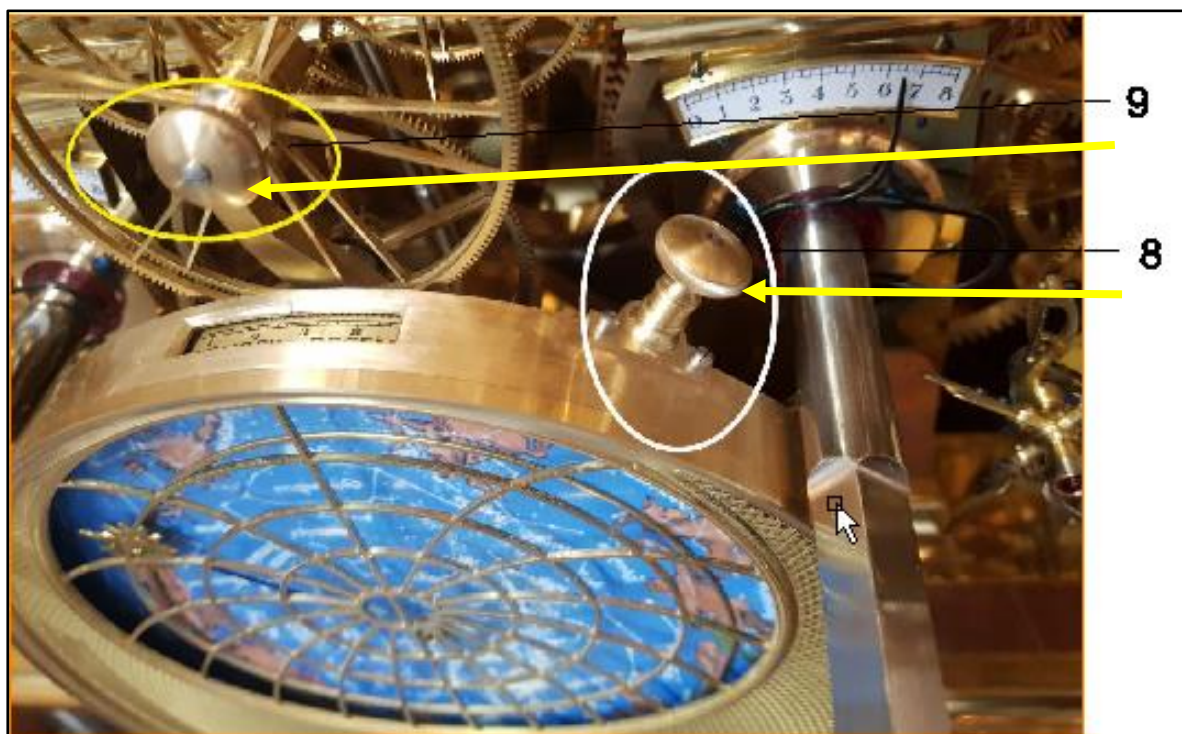

Fig. 1. Planisphere setting knobs, left sets the Sun; right sets the planisphere star disk and its date as seen in aperture at the top of the planisphere bezel
1. Set the Star Disc so that the correct date is aligned with the pointer at the centre of the opening on top of the Planisphere mask by means of the setting button (8) at two o'clock position on the edge of the Planisphere mask. This is accomplished by depressing the button to engage it and then turning the button while depressed. Make sure the setting button springs back to the disengaged position when setting is complete, Fig. 1.
2. The sun is then positioned pointing vertically downward by means of rotating the setting button (9) at the 12 o'clock position above the Planisphere mask, Fig. 1.